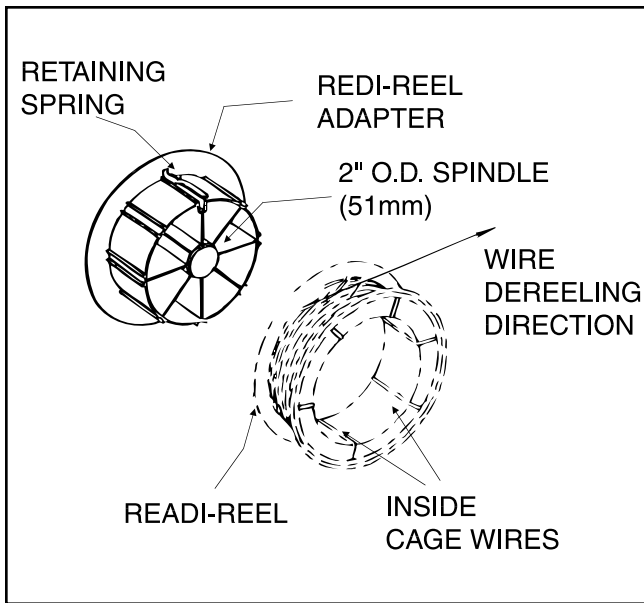

FIGURE B. 6 - Wire Reel Loading
3. Position the Readi-Reel so that it will rotate in a clockwise direction when wire is dereeled from the top of the coil. See Figure B. 6.